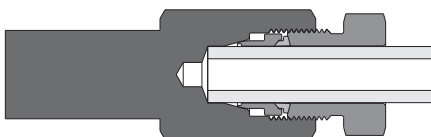

Fig.5
2. Insert the tubing into the manual presetting tool. Finger tight the nut. Make sure that the tubing rests firmly on the shoulder of the presetting tool (Fig. 5).